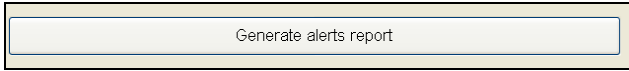

Figure 20.0.14
- Click on the Generate alerts report button to view the **“Alerts”** report (Figure 20.0.14).